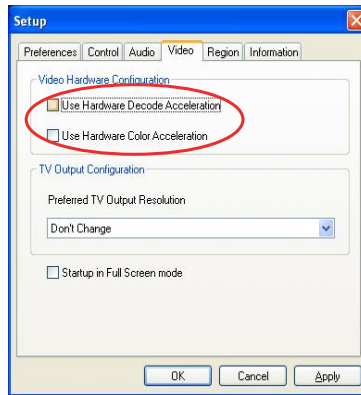

Figure B-5 Setup
- The following sub-panel is displayed, then click the circled part shown in figure B-5.